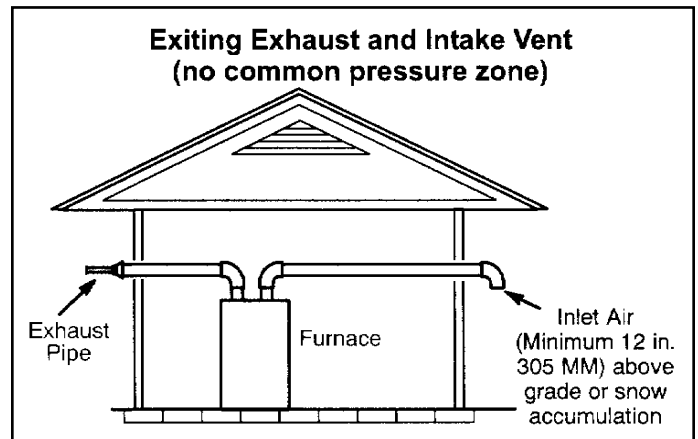
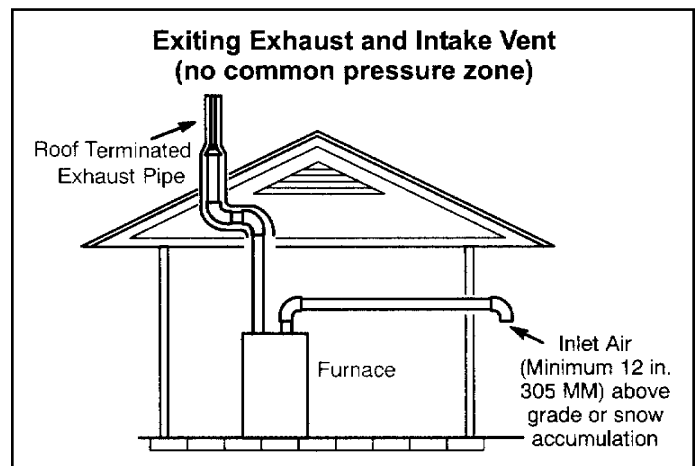

Figure 31.
Figure 32.
1. Vent terminations are not required to be in the same pressure zone. You may exit the intake on one side of the structure and the exhaust on another side (Figure 31). You may exit the exhaust out the roof and the intake out the side of the structure (Figure 32).